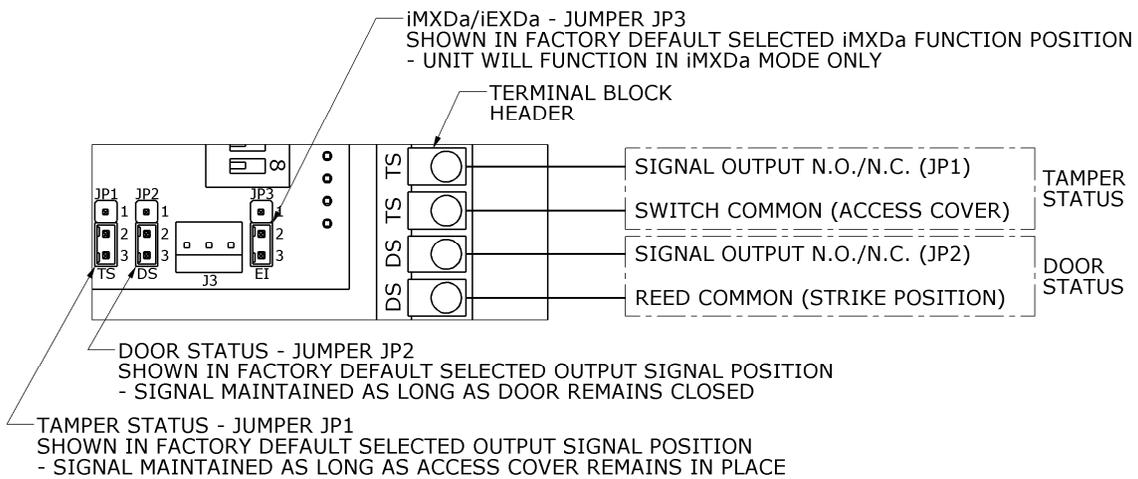

Figure 15
- The "EI" terminal provides a connection for external initiate of exit delay. To operate the external initiate (iEXDa) the JP3 jumper which by factory default is placed over pins 2 and 3 must be removed and placed over pins 1 and 2 (see Figure 15).
The tamper status and door status switches provide dry contact output at the terminal block header. Output is field selectable via the jumpers shown in Figure 15. The factory default jumper settings for both JP1 and JP2 are set for normally closed operation (pins 2 and 3). If normally open operation is desired, change the jumper setting to pins 1 and 2.